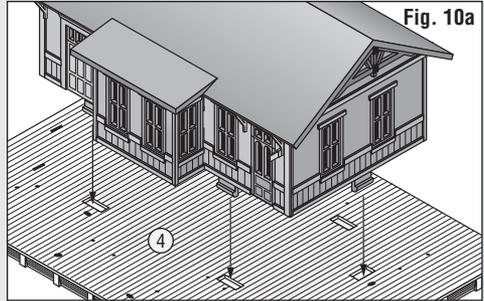

Fig. 10a
- Position Platform ④ with the stairs toward the back.
- Align Building tabs with slots on Platform and snap in place (**Fig. 10a**).